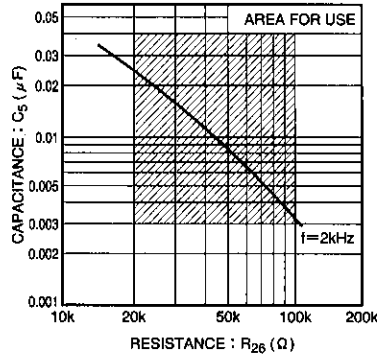

Fig. 7 Value of external components for oscillator (Vcc = 5.0V)
- 3) The external resistor R26 connected to the oscillator (pin 28) should be in the range of 20kΩ and 100kΩ. If it is outside this range, oscillation may stop due to the influence of temperature (see Fig. 7).